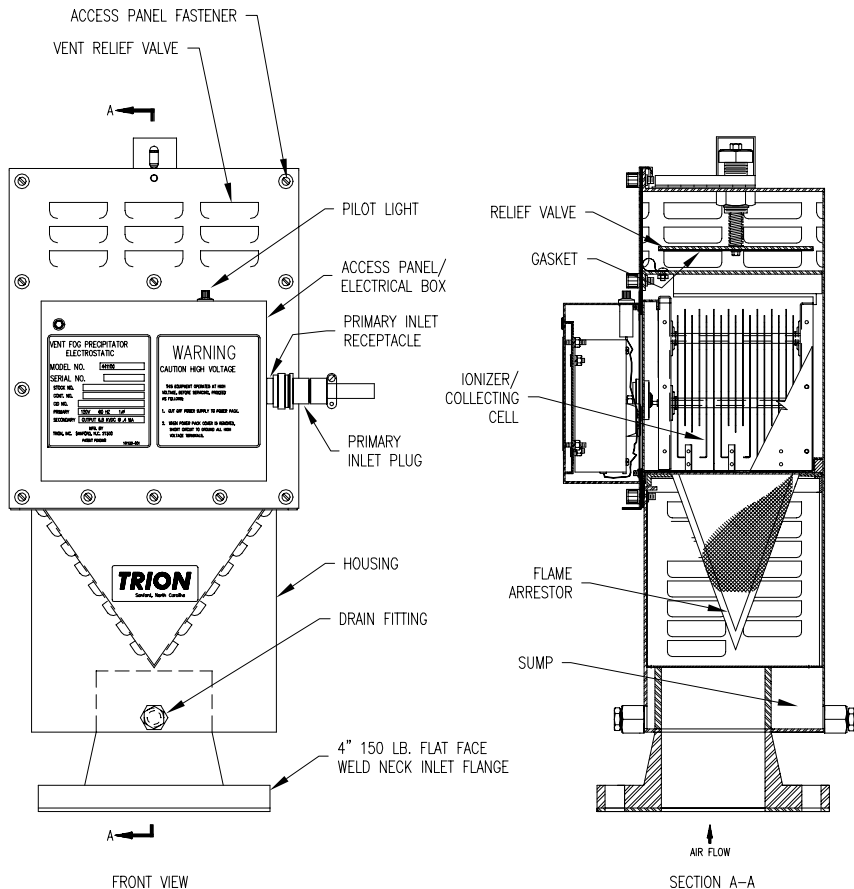

FIGURE 1-1 Vent Fog Precipitator
1-4 **EQUIPMENT DESCRIPTION.** (See figure 1-1.)
#### **2-2 CONTROLS AND INDICATORS.** (See figure 1-1.)
#### **2-3 OPERATING PROCEDURE.** (See figure 1-1.)
- 2-3.1 **STARTUP.** (See figure 1-1.) To start up the vent fog precipitator, follow the procedure outlined below.
2-3.2 **SHUTDOWN.** (See figure 1-1.) To shut down the vent fog precipitator, de-energize primary power to the power pack.
#### **3-2 SYSTEM OPERATION. (See figure 1-1.)**
#### **3-3 PRECIPITATOR OPERATION. (See figure 1-1.)**